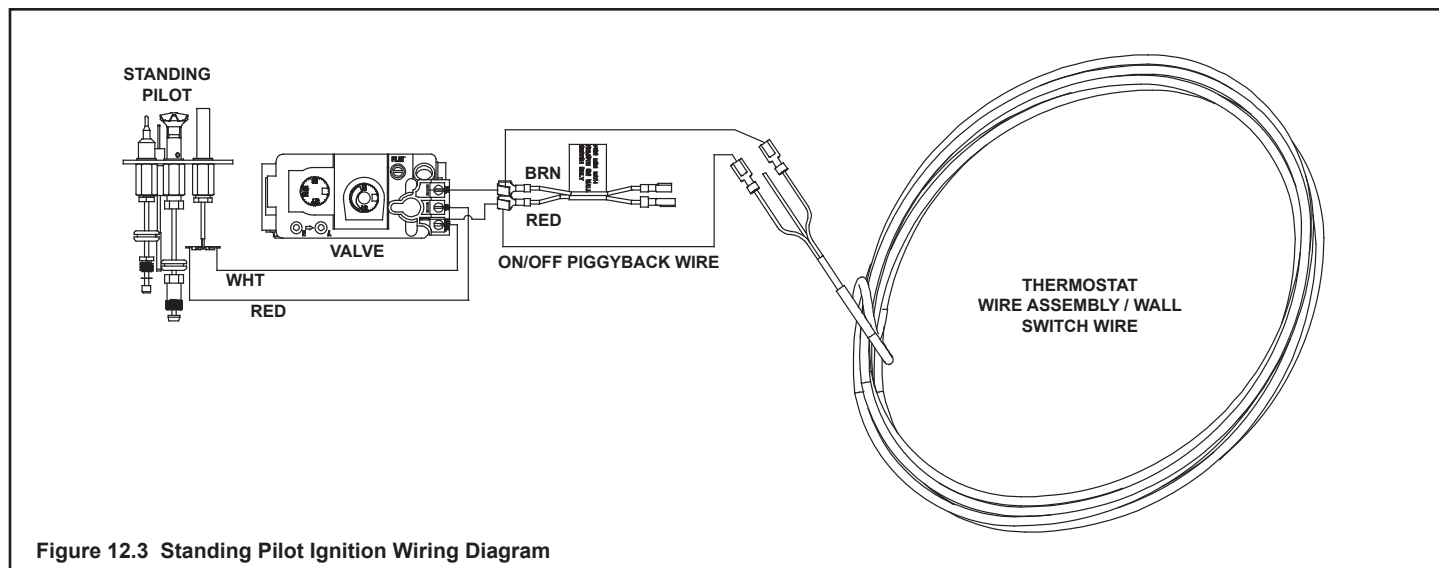

Figure 12.3 Standing Pilot Ignition Wiring Diagram
- The standing pilot ignition system wiring does not require a 110-120 VAC supply to operate. See Figure 12.3